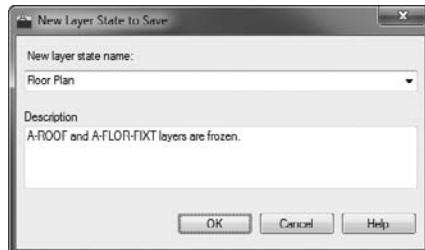

FIGURE 6.57 Saving a layer state in the New Layer State to Save dialog box
5. Click the New button to create a new saved layer state. In the New Layer State to Save dialog box, enter **Floor Plan** in the New Layer State Name field. If you like, enter a description for the layer state as well (see Figure 6.57). Click the OK button when you are done.